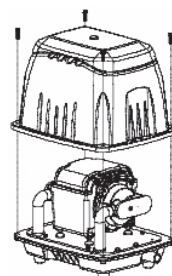

FIG. 2
1. Loosen the four screws around the aluminium upper cover, and take the cover off. (As shown in figure 2)